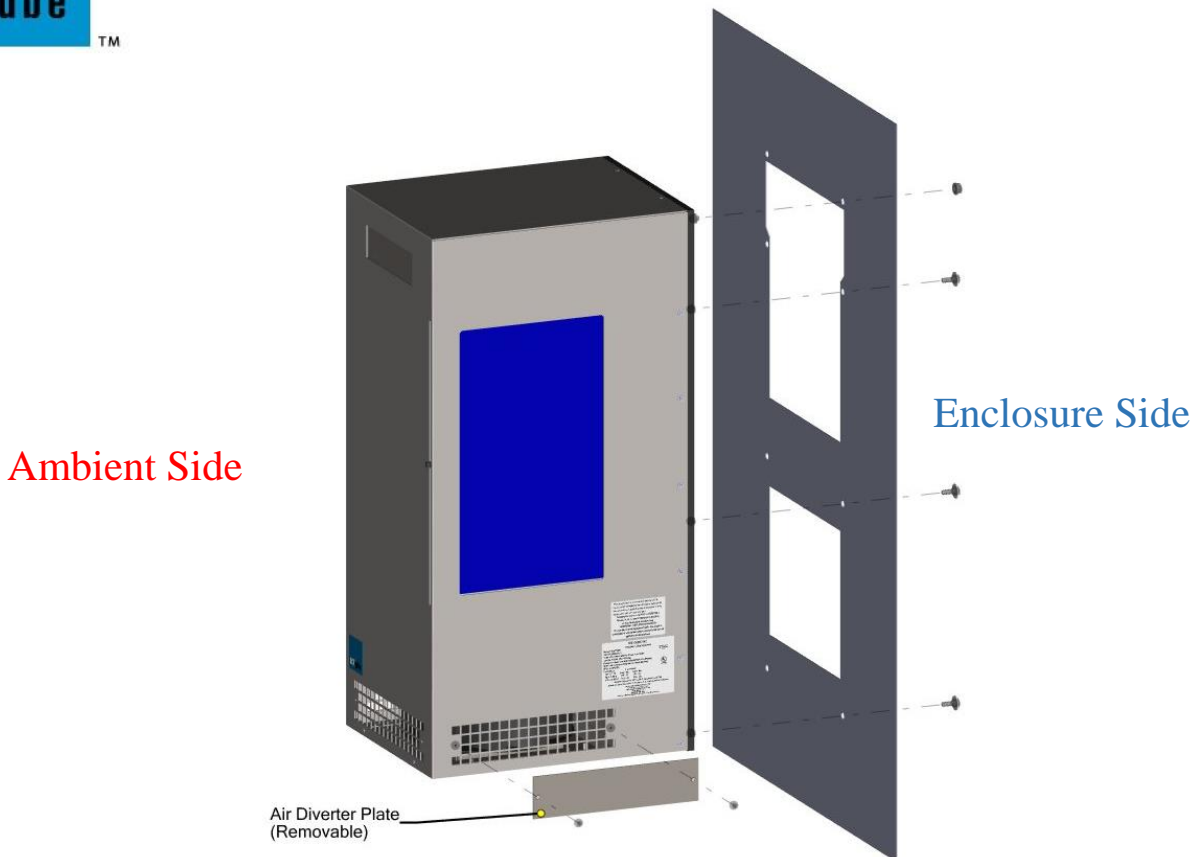

Figure 1: Enclosure Installation
7. Confirm the gasket is properly installed to the Ice Qube TMS. This gasket is required to create a seal against your enclosure and will maintain enclosure integrity. (*See Figure 1: Enclosure Installation*)